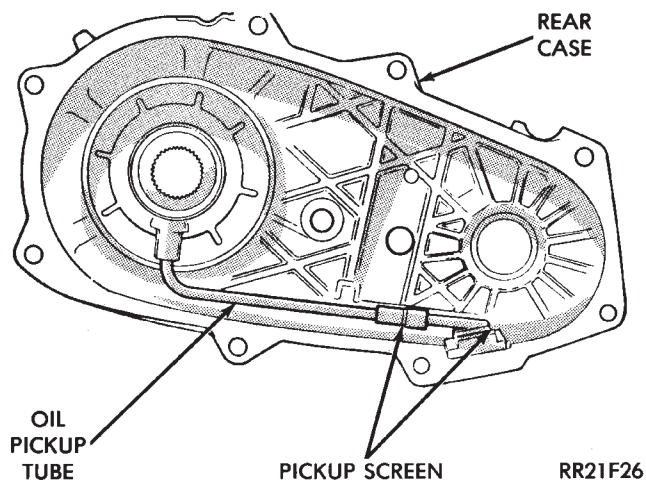

Fig. 7 Removing Oil Screen And Pickup Tube
(14) Disconnect screen from pickup tube and remove screen (Fig. 7).
(15) Remove pickup tube from oil pump (Fig. 7).